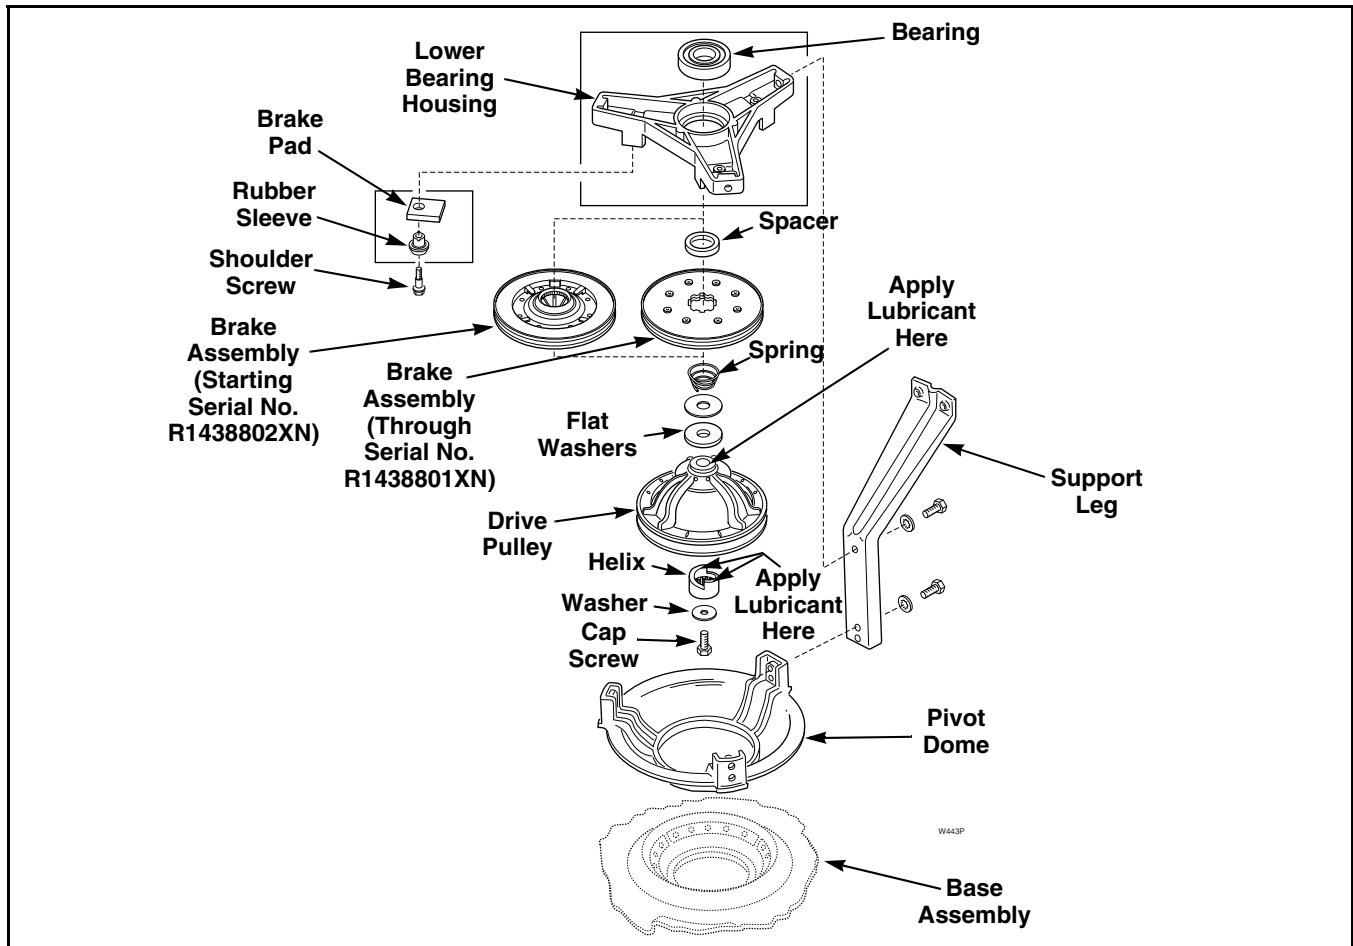

Figure 36
IMPORTANT: The two large flat washers must be in place between the spring and drive pulley when reassembling. Refer to *Figure 36* for assembly sequence.
NOTE: When reinstalling pulley, place a small amount of lubricant to the top side of the drive pulley that will be contacting large flat washers. Lubricate helix ramps also. Refer to *Figure 36*.
- Using a right angle needle nose pliers, remove spring from around lower transmission tube (located inside the brake assembly). Refer to Figure 36.
- Remove three screws holding brake pads, rubber sleeves and brake assembly to lower bearing housing, then remove brake assembly, pads and spacer off bottom of transmission assembly. Refer to Figure 36.
NOTE: Refer to Figure 36 for assembly sequence.
- Remove three screws and rubber sleeves holding brake pads to lower bearing housing. Refer to *Figure 36*.
- Remove three screws holding lower bearing housing to tub support legs. Refer to *Figure 36*.